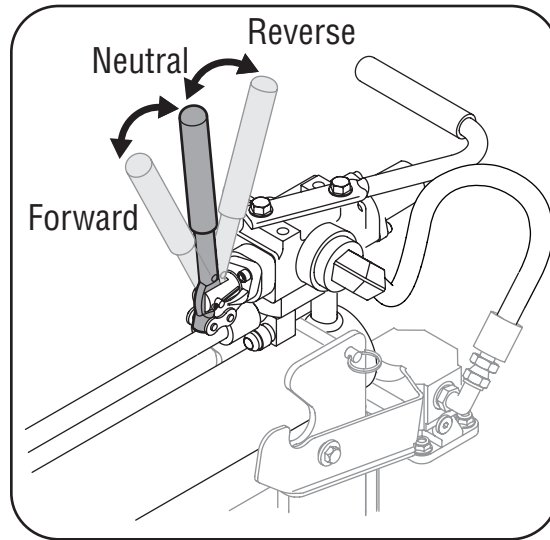

Figure 4-5
4. Move hydraulic valve control FORWARD until ram touches log. Release the hydraulic valve control to NEUTRAL position to stop the ram movement. See Figure 4-5.